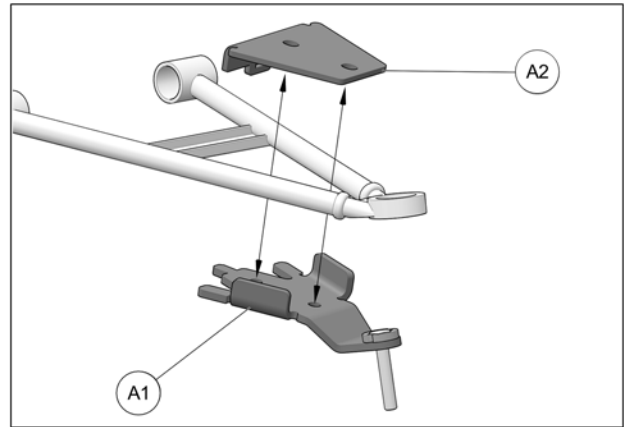

Fig. 17
5. Position bottom part of anchor bracket set (A1) underneath lower suspension arm. Position top part (A2) over suspension arm. See Fig. 17